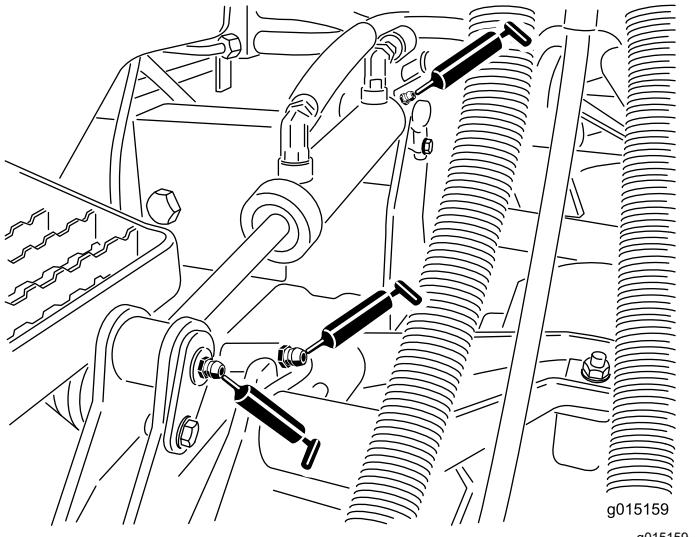

Figure 104
- Lift arm bushings (1 per cutting unit), refer to Figure 104
- Lift cylinder bushings (2 per cutting unit), refer to Figure 104